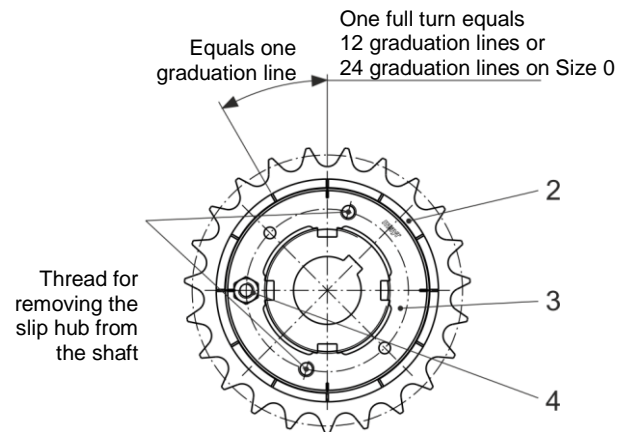

Fig. 20
There are 12 markings engraved on the thrust washer (2) facing side (Size 0: 24 markings), and 4 markings engraved on the adjusting nut (3) (Fig. 20).
1. Unscrew the locking screw (4) from the adjusting nut (3).
2. The adjusting nut (3) with lock washer (13) is adjusted by hand up to contact on the cup springs (5). The 4 markings and the markings on the thrust washer (2) must align.
3. Turn the adjusting nut (3) further to the number of graduation lines which relates to the required slipping torque. For the number of graduation lines that need to be adjusted, dependent on the torque, please see the Adjustment Table. The Adjustment Table is adhered to the clutches Sizes 01 to 5. For Size 0, the Adjustment Table is printed in the Installation and Operational Instructions (Table 5).
4. Secure the adjusting nut (3) by screwing in the locking screw (4).
There are 12 markings engraved on the thrust washer (2) facing side and 4 markings engraved on the adjusting nut (3) (Fig. 20).
3. Turn the adjusting nut (3) further using a face wrench to the number of graduation lines which relates to the required slipping torque.